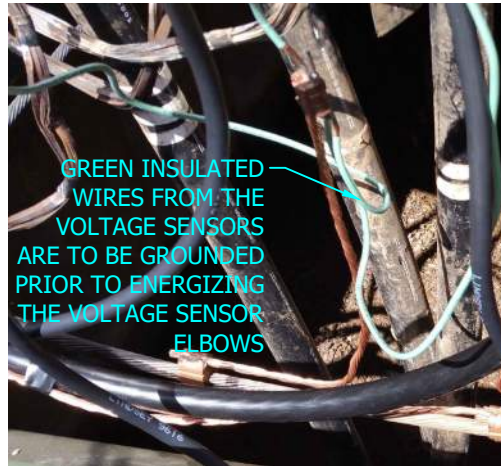

FIGURE 56 Ⓡ
- Ⓡ VOLTAGE SENSOR ARE TO BE CONNECTED TO THE TIE POSITION OF THE SWITCH. IF APPLICABLE USING A FEED THRU DEVICE ON THE P.T. WILL ALLOW FOR THE VOLTAGE SENSOR AND P.T. TO BE CONNECTED TO THE SAME SWITCH POSITION. SEE FIGURE 56.